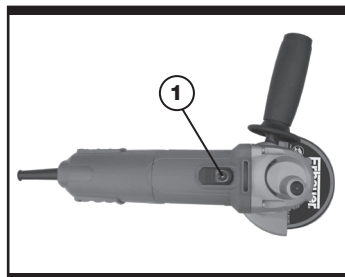

Fig. 4
To switch off the power tool, release the on/off switch (1) or, if it is locked, briefly push down the back of the on/off switch (1) and then release it. (See Fig. 4)